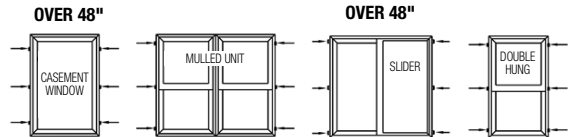

FIG. 13
- Note: Use flat shims.** (Fig. 13)
- K) **For double hung units: To ensure proper window operation and performance, it is critical to shim at the check rail to ensure the frame widths are equal at the top, center and bottom of the unit.** (Fig. 13)
- M) Make sure jambs, head and sills are straight. Additional shimming may be required. (Fig. 13)